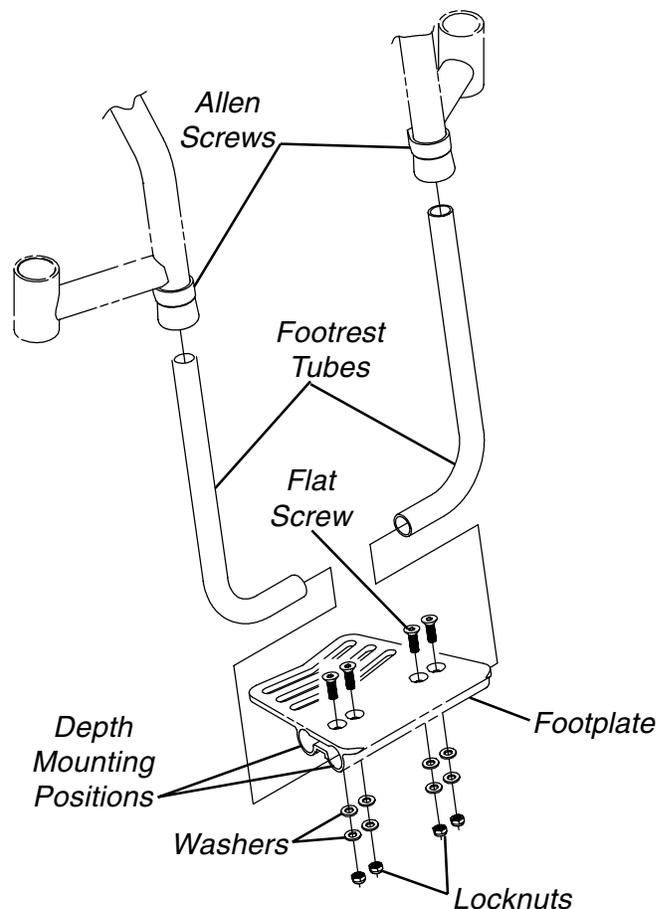

FIGURE 1 - FOOTREST REPLACEMENT/ADJUSTMENT
**ANTI-TIPPER ADJUSTMENT/REPLACEMENT (FIGURE 1)**